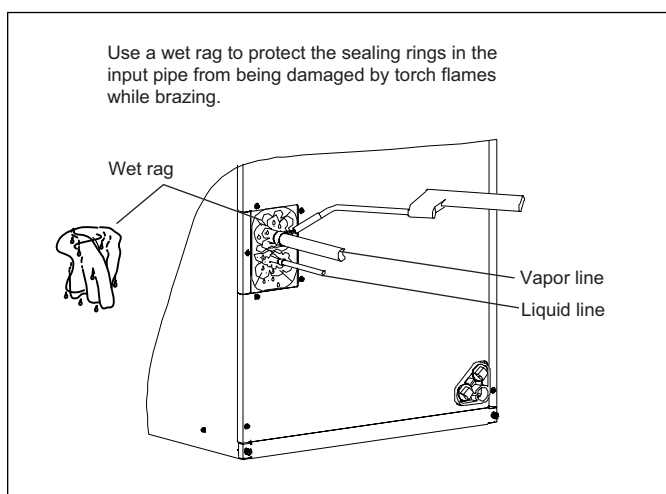

Figure 9 Protection during the brazing process
- Use a brazing shield to protect the cabinet's paint and a wet rag to protect the rubber grommet and input pipe's piston seal ring from being damaged by torch flames. Use a wet rag or an approved heat paste to protect the TXV sensing bulb during the brazing process. Refer to Figure 9.